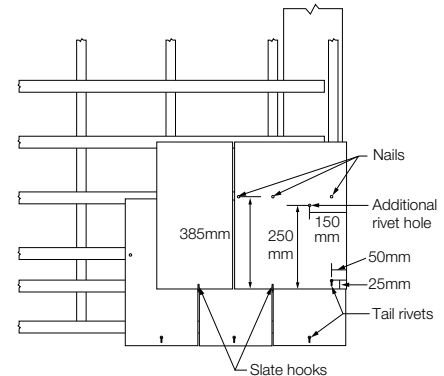

Fig. 16
- At the verge on the next course, install the first full length slate-and-a-half slate, by drilling 3 no. 4mm dia. nail holes on the batten line for shoulder nailing 385mm up from tail of slate and two additional 4mm dia. holes for the copper disc rivets to secure the tail of this slate and that of the slate above (Fig. 16).